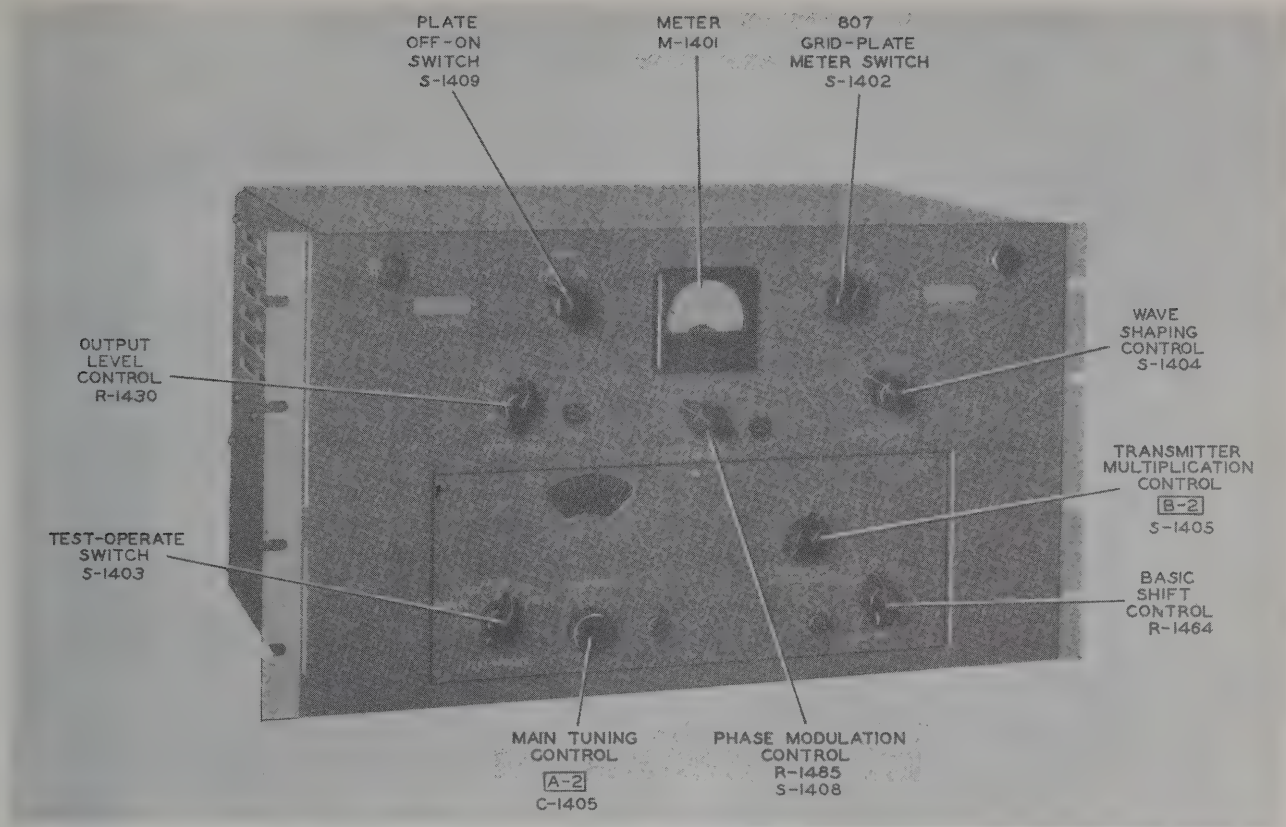

Figure 25. Frequency-Shift Keyer KY-45/FRT-5 Controls.
*a. Frequency Shift Keyer KY-45/FRT-5 (fig. 25).*